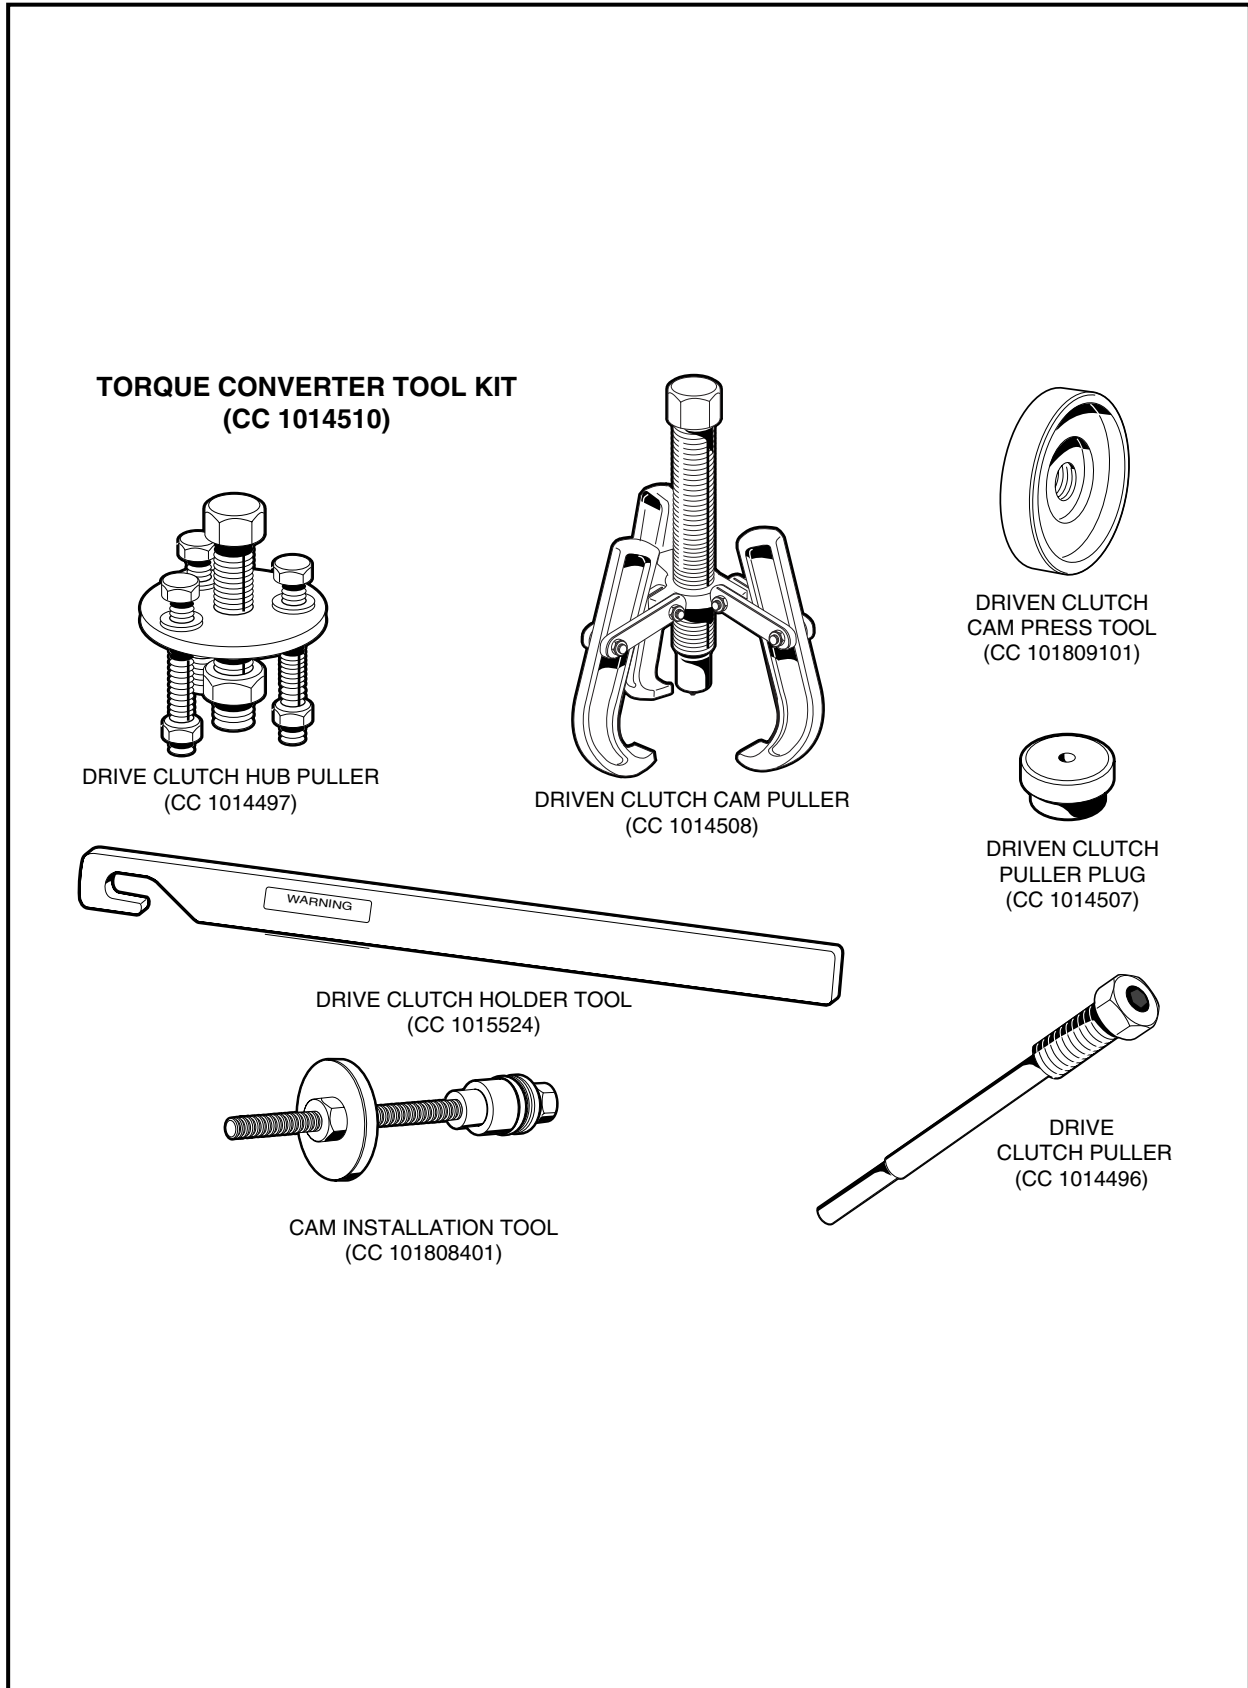

Figure 17-1 Torque Converter Tool Kit
- Torque Converter Tool Kit (CC 1014510) (**Figure 17-1, Page 17-2**)